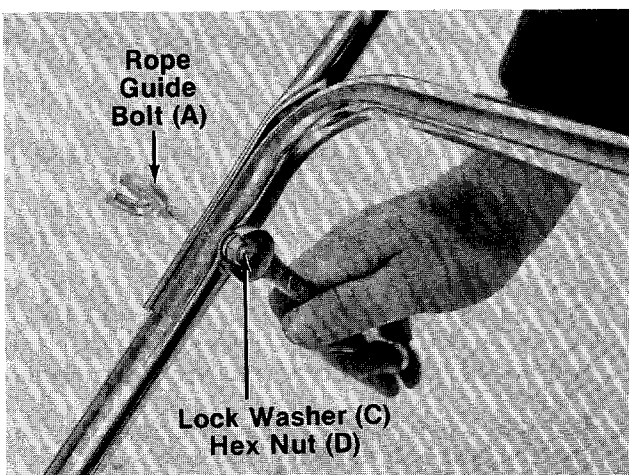

FIGURE 3.
- ← 4. Place the upper handle in position over the lower handle. The throttle control must be on the left hand side of the handle. Secure the right hand side of upper handle using the rope guide bolt (A), lock washer (C) and hex nut (D) as shown in figure 3.